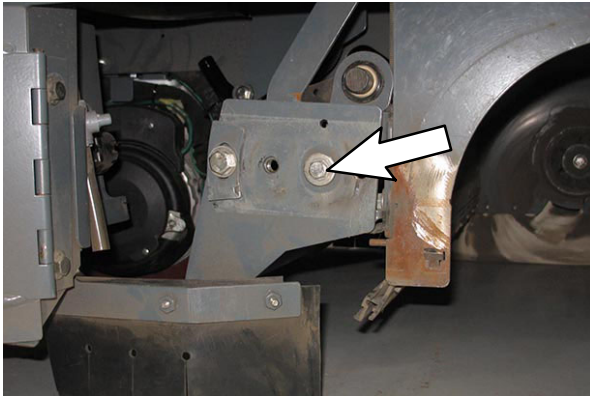

FIG. 7
9. Remove the M8 hex nut securing the lift sweep arm to the left pivot mounting bracket. Set all hardware aside. (Fig. 7)